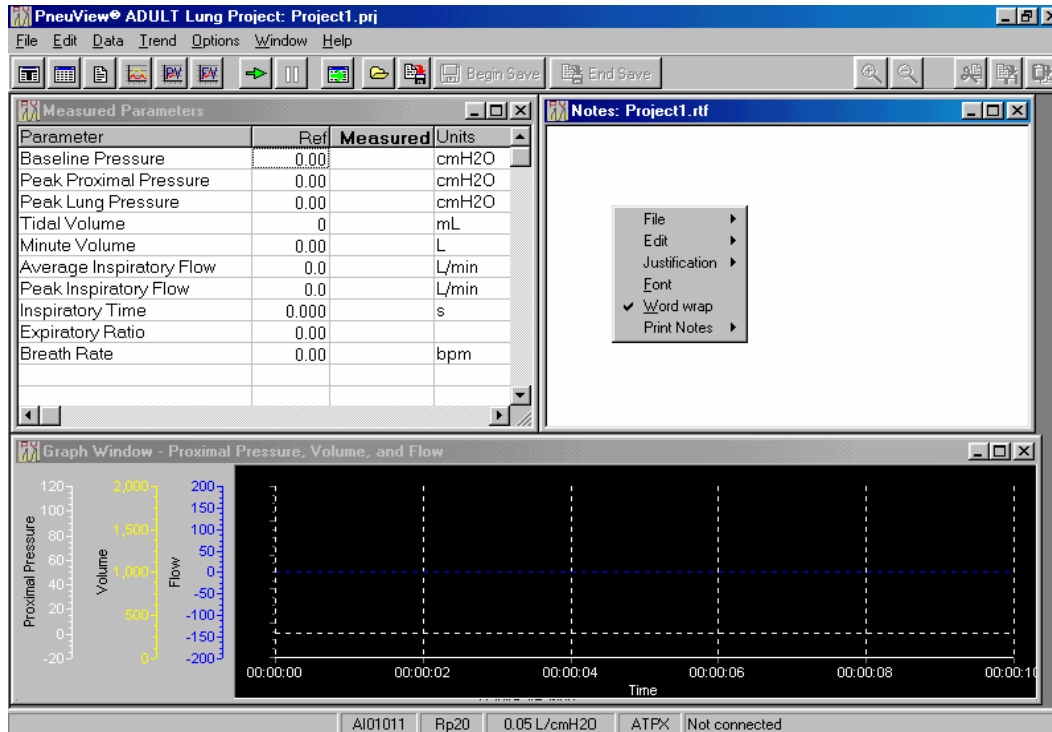

Figure 7 – Notes Window Menu
B. Notes. The Notes window is a text editor and provides capabilities for entering, editing, and saving text. Right clicking the mouse in the notes window can access a menu. The menu commands are File, Edit, Justification, Font, Word Wrap, and Print Notes. Standard sub-menus appear when selecting these commands. See Figure 7 for Notes Window and Menu.